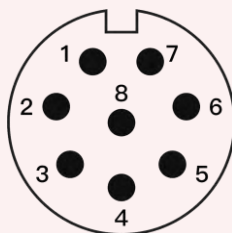

Figure 1.5 Schematic diagram of the flange I/O hardware port
(2) As shown in Figure 1.5 and Table 1.6, provided on the end flange: